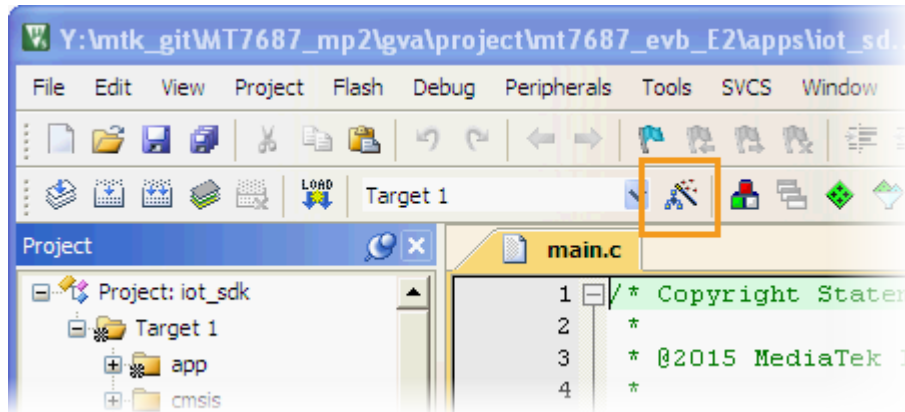

Figure 46. Set download configuration on μ Vision IDE
- 3) Click **Options for Target** or navigate to **Project**, then **Options for ...** and select **Target** on the main menu of the IDE (see Figure 46).
- 1) Click **Options for Target** or navigate to **Project**, then **Options for ...** and select **Target** on the main menu of μ Vision IDE, as shown in Figure 46.
- 5) Click **Options for Target** or navigate to **Project**, then **Options for ...** and select **Target** on the main menu of, as shown in Figure 46.